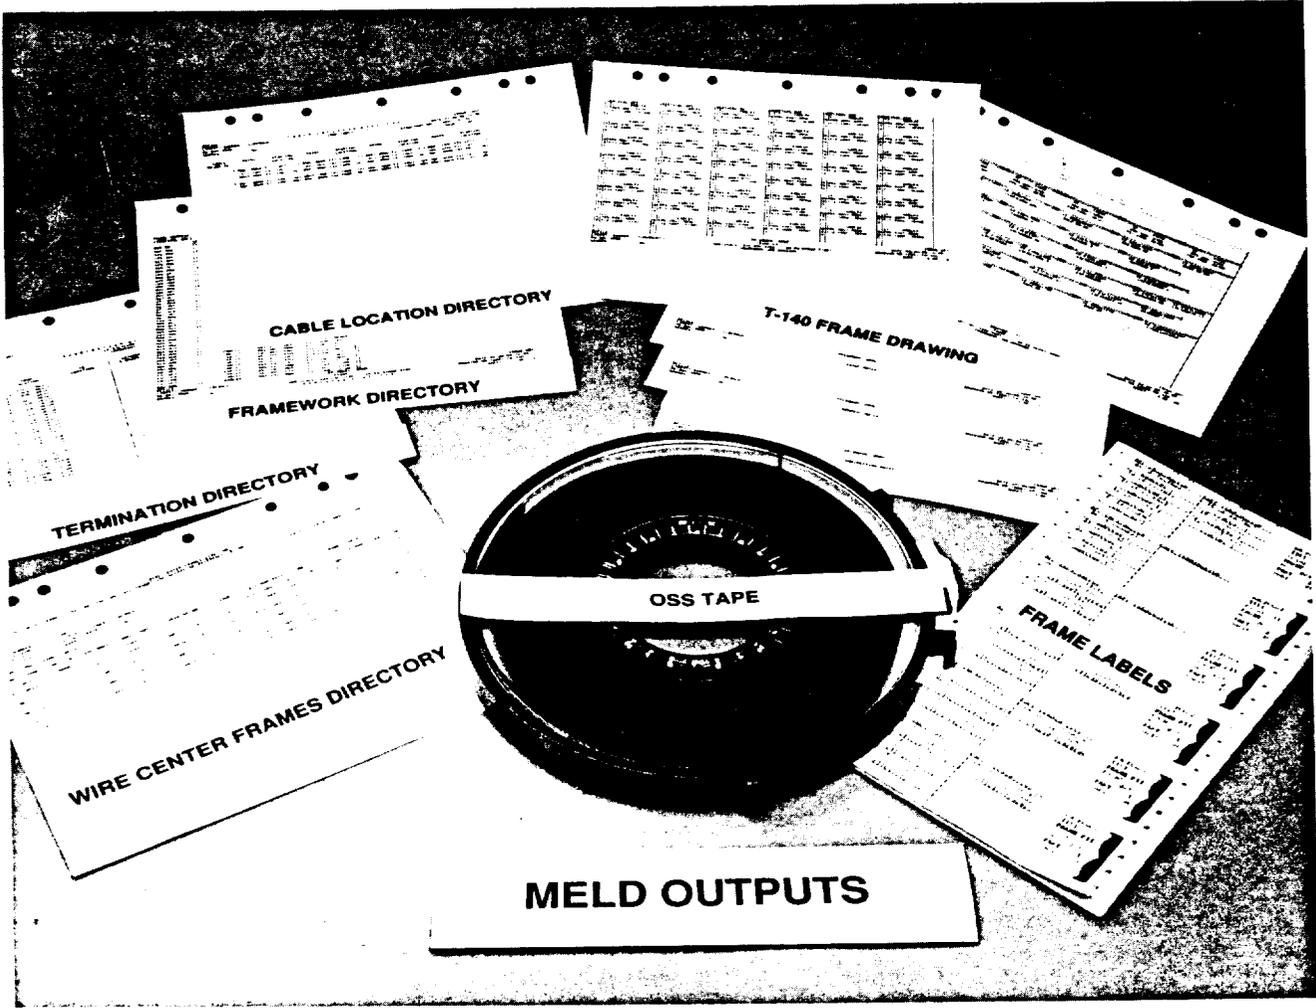

Figure 24. MELD Outputs
12.06 MELD's OSS magnetic tape is used for initializing a mechanized frame administration system such as Computer System for Main Frame Operation (COSMOS) and Computerized Frame Administration System (CFAS). *COSMIC* Mini DFs that are engineered by MELD and administered by COSMOS or CFAS can accommodate up to 50,000 terminations. Moreover, such arrangements with 9-inch (229 mm) wide vertical troughs accept standard MELD *COSMIC* frame labels for outside plant, tie, and line equipment terminations (Figure 24).